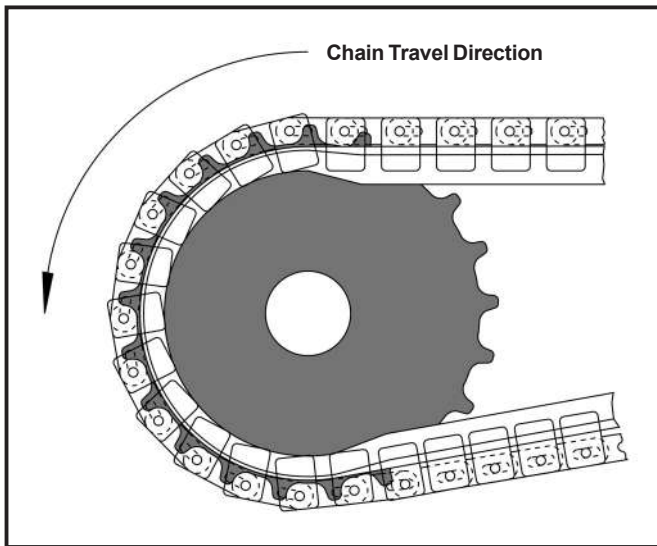

Figure 29: Sprocket engaging MonoSpan® or MultiSpan® chain
- When the chain has reached the drive end of the conveyor, engage the chain with the drive sprockets (*Figures 29 and 30*, on page 31). Ensure that the chain links and sprocket teeth are aligned across the chain width.